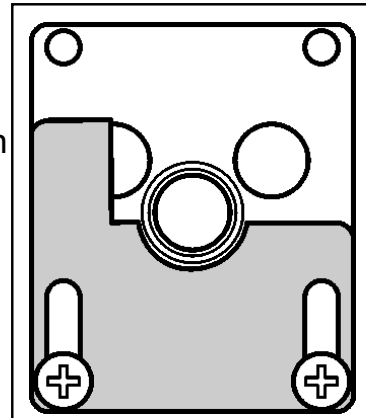

Figure 28. Aeration shutter setting.
2. Unscrew and remove the upper heat baffle (See figure 28). Place the heat baffle in a safe place away from the work area.
5. At the top of the heater are two openings. The upper opening has a tapered rear that has an opening of its own. The smoke match should be placed horizontally into this opening so that it touches the right hand side of the opening. It should pass the upper part of the opening by 40mm (See figure 28).
1. The aeration shutter is factory set. It is important to ensure that the aeration setting is correct (See figure 28).
2. If the setting is not as shown in figure 28 adjust the aeration setting. To do this loosen the two aeration shutter screws, slide the aeration shutter to the desired position and tighten the screws.